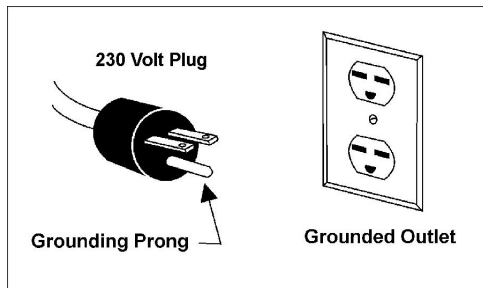

Figure 6
- The 115V attachment plug (shown in Figure 6) supplied with the sander, must be replaced with a UL/CSA listed plug suitable for 230V operation (shown in Figure 7). Contact your local authorized Walter Meier (Manufacturing) Inc., service center or qualified electrician for proper procedures to install the plug. The sander must comply with all local and national codes after the 230 volt plug is installed.